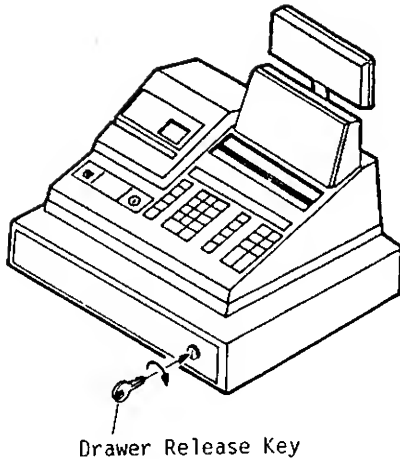

Fig. 1
1. Insert the Drawer Release Key into the Drawer Release Lock and turn the key clockwise. The drawer will now open. (Fig.1)